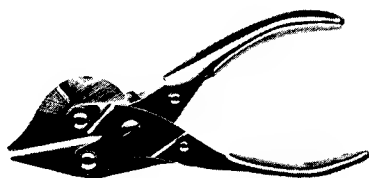

FIG 5
3. pliers (combination pliers & wire cutters) (FIG 5)